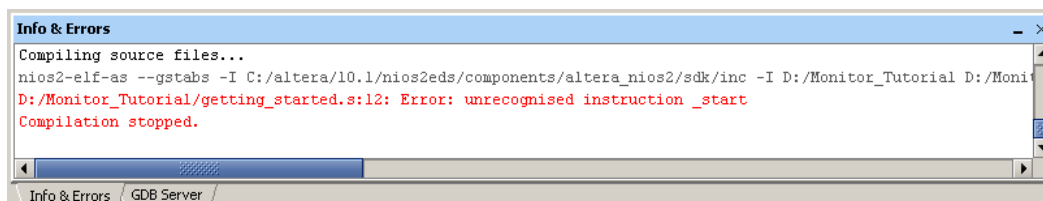

Figure 15. An example of a compiler error message.
During the process of developing software, it is likely that compilation errors will be encountered. Error messages from the Nios II assembler or from the C compiler are displayed in the Info & Errors window. To see an example of a compiler error message, edit the file *getting_started.s*, which is in the project's directory, and remove the : colon that appears at the end of the *_start* label, in line 12. Recompile the project to see the error shown in Figure 15. The error message gives the line number in the file (12) where the error was detected. Fix the error, and then compile and load the program again.